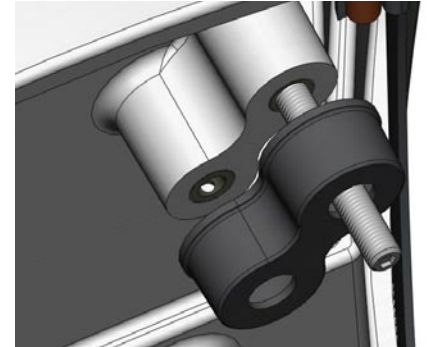

Figure 3
3. Install the seals onto the pedestal (Figure 3).